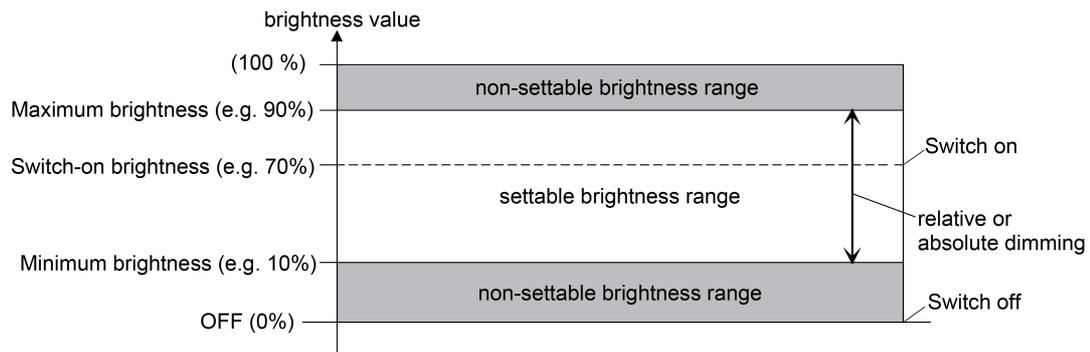

Figure 14: Example of a brightness range with minimum brightness
- Definition of the lower brightness limit with minimum brightness (figure 14):
- i** In the "speed controller" operating mode for the "1-gang" device variant - similar to the description of the brightness values for lighting control in this chapter - the minimum speed can be configured in the ETS (figure 14). The alternative configuration of a basic speed is not provided here for technical reasons. The maximum speed cannot be adjusted by means of a parameter either. It is predefined to 100 %. The cutting-in speed is unalterably preselected to a maximum speed (100 %).